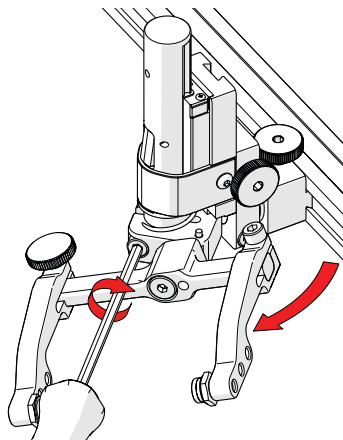

Fig. 115 - Rotate and tighten
3. Tighten the transverse adjustment screw (*Fig. 115*).